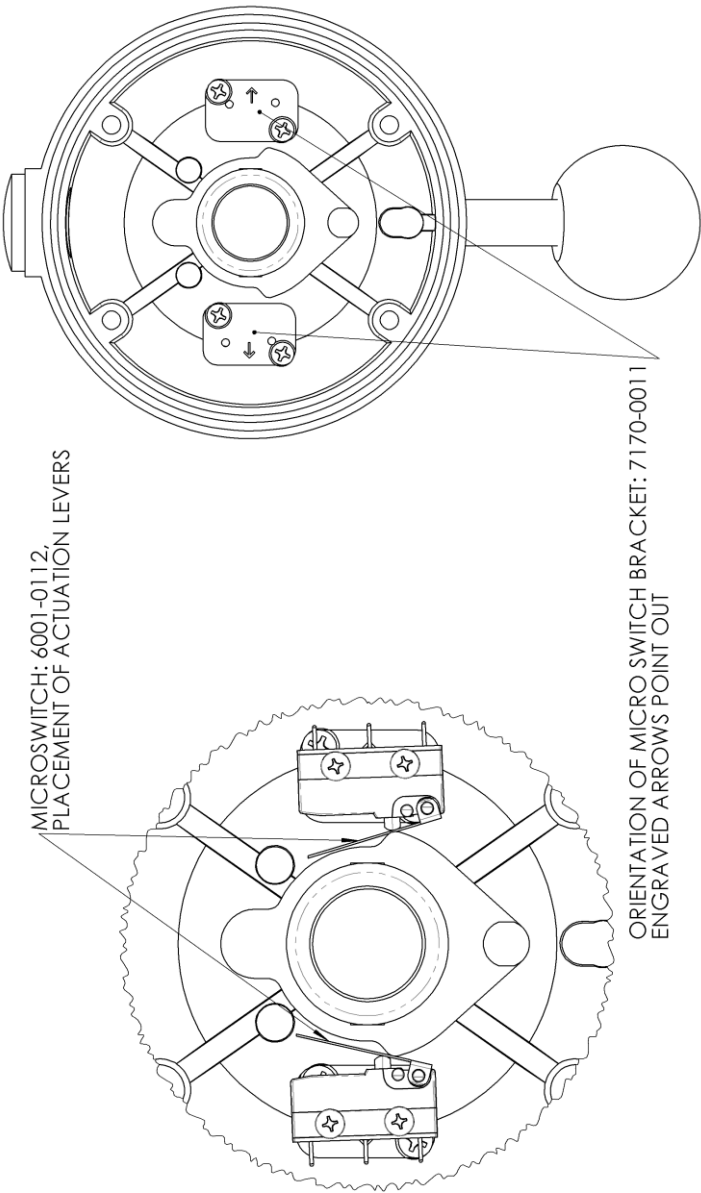

Figure 11: Placement of microswitch and microswitch mounting bracket within the housing.
3. Refer to Figure 11 and note the engraved arrow on the microswitch bracket ① is facing outwards on both sides of jog lever.
4. Apply Loctite 243(Blue) to X2 Flat head screws ④.
5. Install bracket ① with screws ④ into the jog unit housing, 7170-0001, ensuring the engraved arrow is correctly orientated.
7. Refer to Figure 11 and note the orientation of the microswitch ② for the side of the jog unit that the microswitch is being replaced on.
8. Place the microswitch ② on top of the bracket ① orientating the microswitch so the actuation lever is as shown in Figure 11. Ensure the wires are pointed towards the cable gland.
9. Apply Loctite 243(Blue) to X2 pan head screws ③.
10. Use X2 screws ③ and washers ⑤ and snug tighten to secure the microswitch ② the microswitch for positioning.